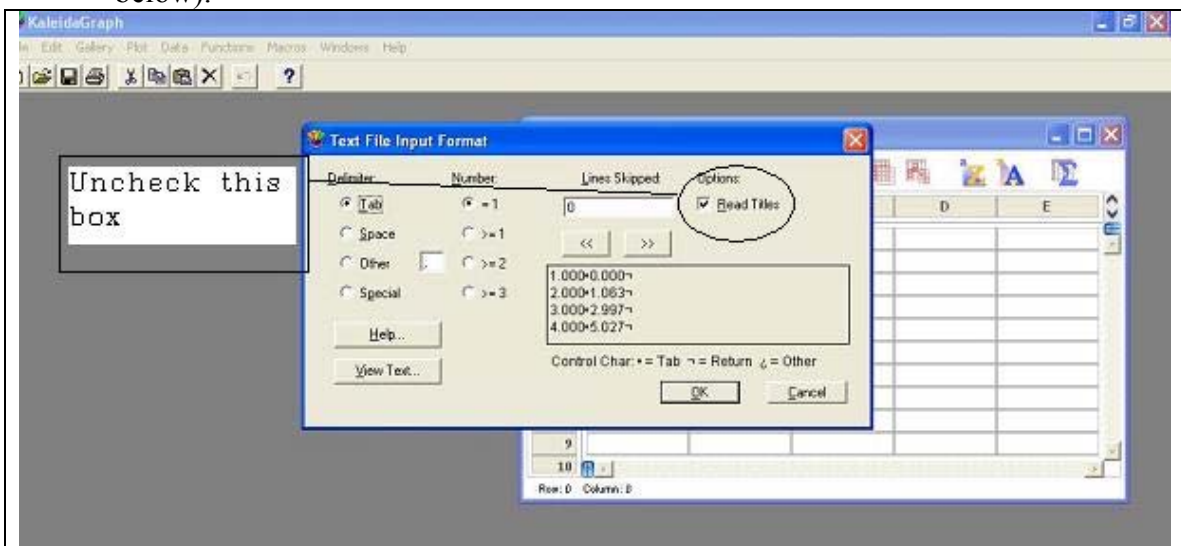

Figure 5S
4. Make sure the **read titles** check box is not checked, then click **OK** (see Figure 5S below).